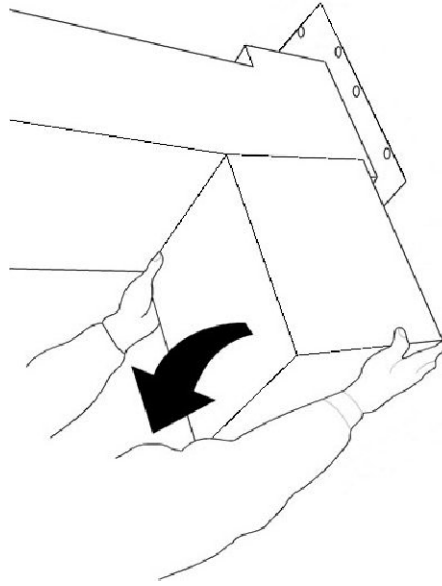

Fig. 5-11 Removing motor safety cover
3. Undo motor safety cover and lift off as shown in Figure 5-11.